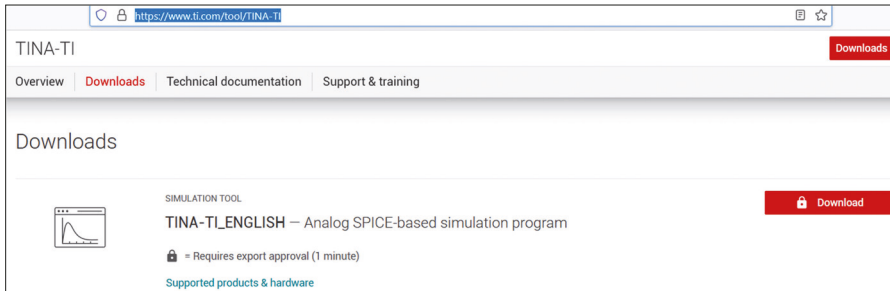

Figure 3.69: Click: Download.
- Scroll down to TINA-TI\_ENGLISH and click Download (Figure 3.69)